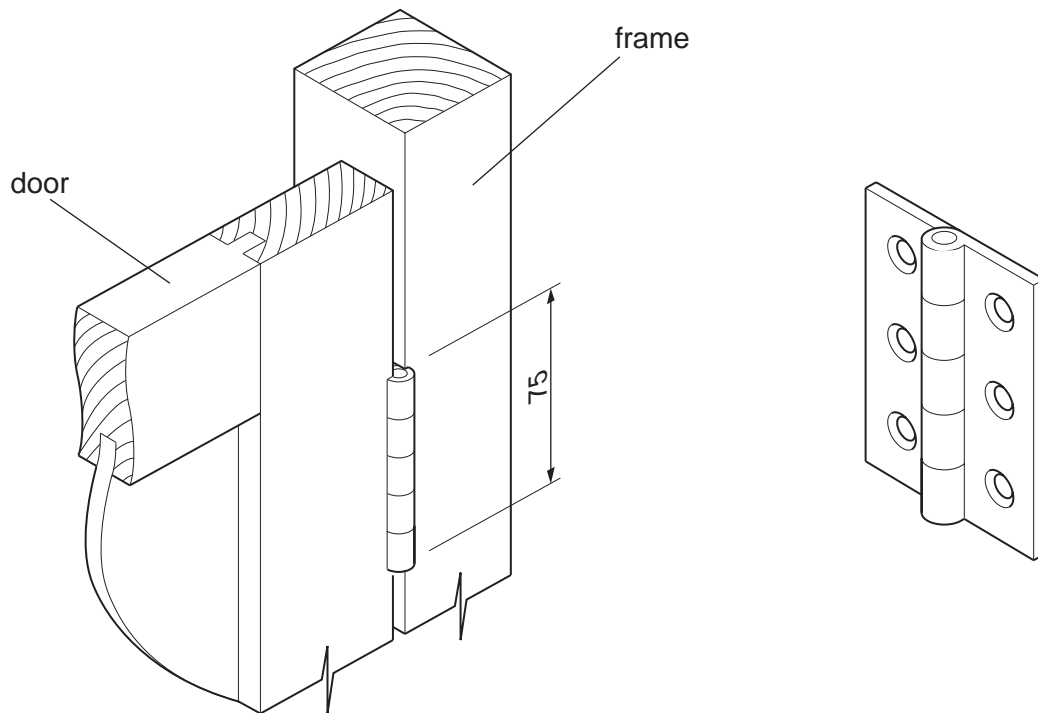

Fig. 12
- 13** Fig. 12 shows details of the top corner of a door and the upright of the frame, with a hinge in position.